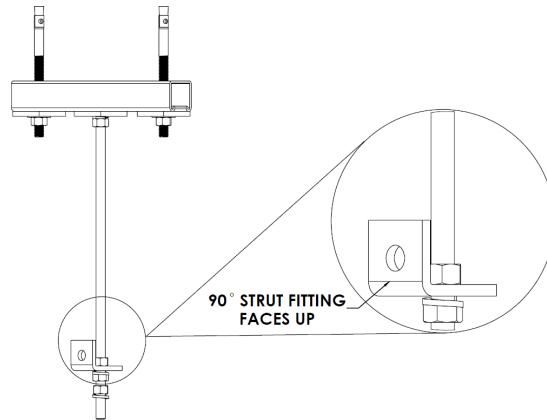

Figure 260: **90° Strut Fitting Faces Upwards**
- The two-hole 90° strut fitting should be facing upwards (Figure 260).